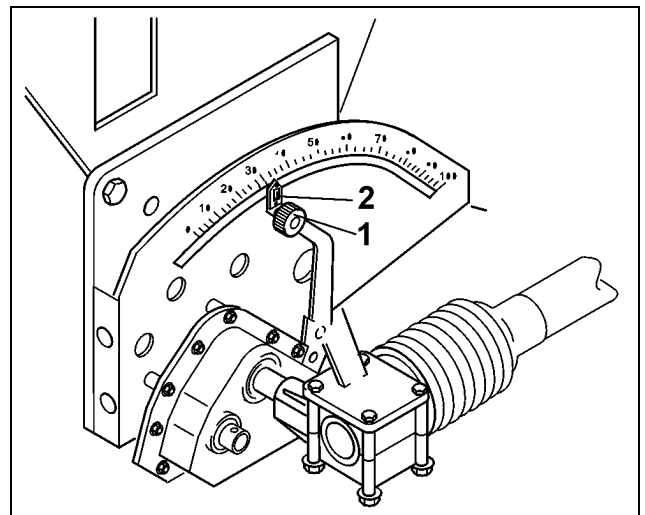

Fig. 69
- Slacken the star knob (Fig. 69/1) of the gearbox setting lever.
- Move the gearbox setting lever (Fig. 69/2) to one of the following gearbox settings:
- Tighten star knob (Fig. 69/1).